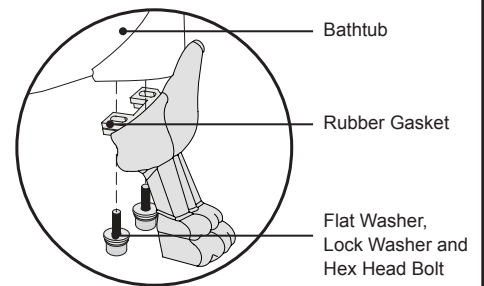

Figure 2. Claw Feet Installation
- 1 Turn the bath upside down on a protective covering and attach the four (4) claw feet to the bathtub (Figure 2).
- 2 Using a flat washer, lock washer and hex head bolt, attach the claw feet to the bath tub. Repeat this step for the remaining three (3) claw feet.
- 3 Once all four (4) feet have been installed, use an Allen wrench (supplied) and tighten all mounting hardware.